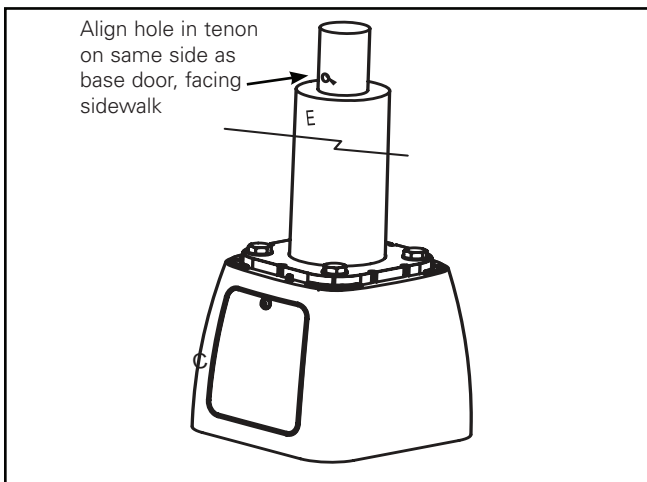

Figure 1. Pole Mount Detail
1. Using the anchor bolts as a guide, line up the four slots at bottom of transformer base and slip the transformer base on top of the anchor bolts. (Figure 1.)
1. Note the hole in the tenon of the pole must face house side (opposite street side) (Figure 1).